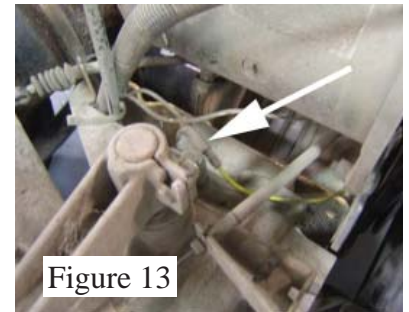

Figure 13
7. Disconnect the yellow oil light switch wire. (See Figure 13).